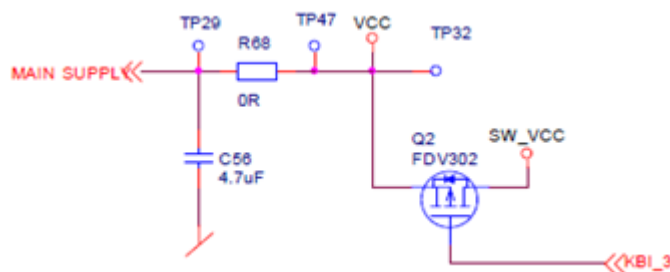

Figure 7. Total board current measurement between TP29 and TP47
- Total current to the board. R68 can be removed and current can be measured between TP29 and TP47. Figure 7 shows example circuit.